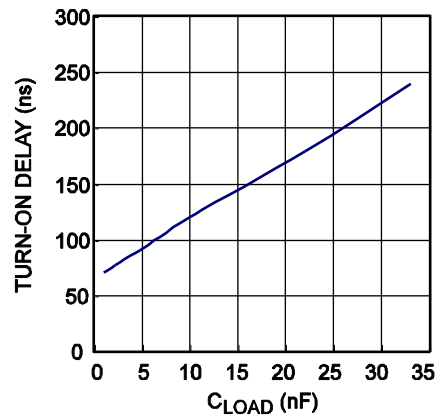

**Figure 11: Synchronous Rectification Typical Waveform in LLC**
Figure 11 shows the typical waveform of the LLC on the secondary side. To achieve a fairly high usage of the MOSFET’s  $R_{DS(ON)}$ , it is expected that the MOSFET driver voltage is kept at the maximum level until the last 25% of the SR conduction period. Calculate  $V_{DS}$  with Equation (2):